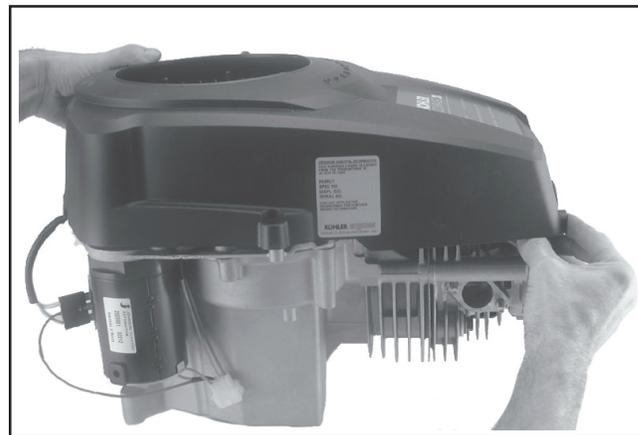

Figure 10-70. Installing Blower Housing.
1. Position the blower housing on the engine and route the spark plug lead through the underside slot. See Figure 10-70.